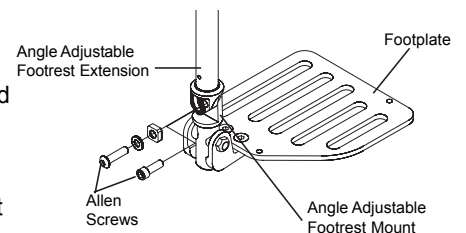

Figure 15
1. Loosen the two Allen Screws that clamp the angle adjustable footrest extension to the angle adjustable footrest mount. See Figure 15.